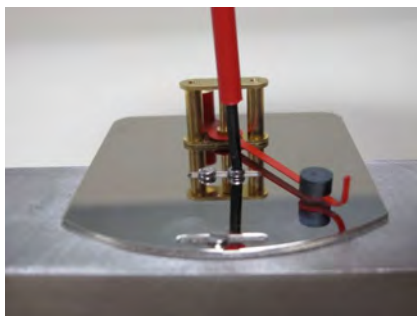

Fig. 62
13. ▶ Set the display base plate on the device body and lightly tighten the mounting screws, so that the base plate can still be moved (Fig. 62). Make sure that the countersunk head screw is used for the long groove (pointer tip end) and the two (2) cylinder head screws are used for the base center